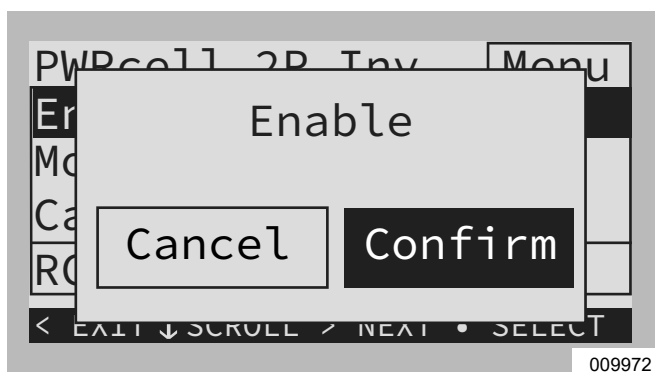

Figure 3-11. Enabling and Disabling Devices (3 of 3)
- See Figure 3-11. Arrow right and press the center button to select Confirm.